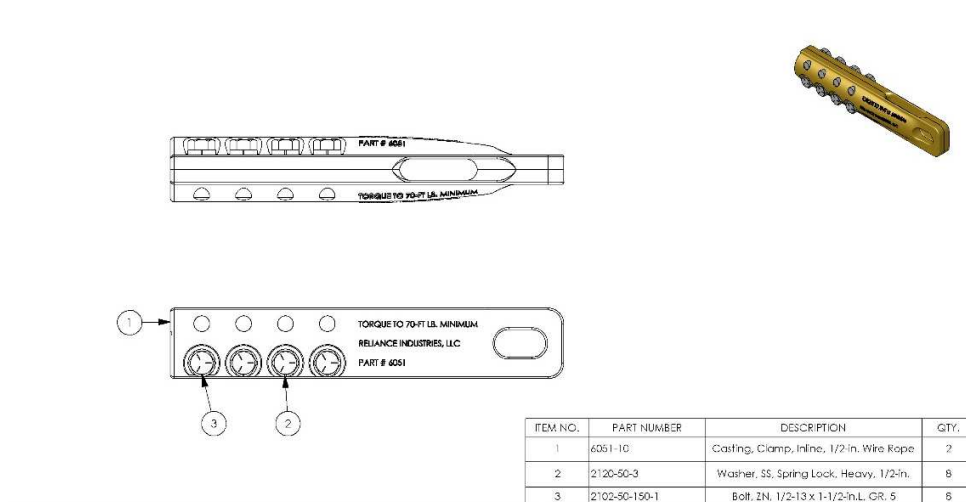

Figure 1
1. Remove the 4 bolts in the cap (top) plate (see Figure 1), and then remove the 4 bolts from the bottom plate. Lift the cap plate from the cable clamp.